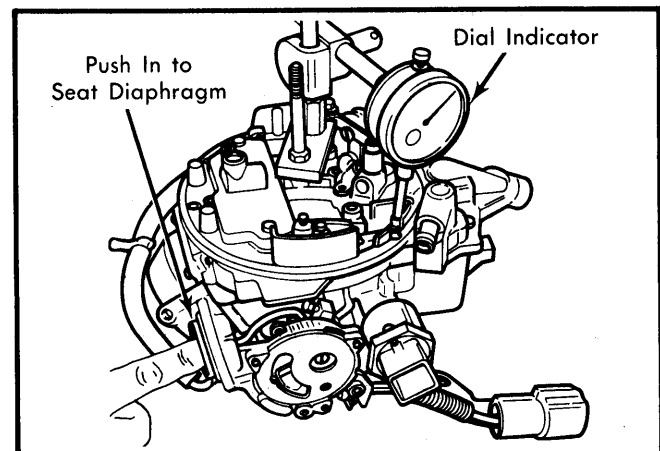

Fig. 9 Choke Diaphragm "CER 75°F (24°C) Start" Adjustment
2) Ensure "CER 75°F (24°C) Run" reading is within specifications. Remove choke weight. Remove diaphragm cover. Push in on diaphragm until seated. Dial indicator should read "CER 75°F (24°C) Start" specification. See Fig. 9.